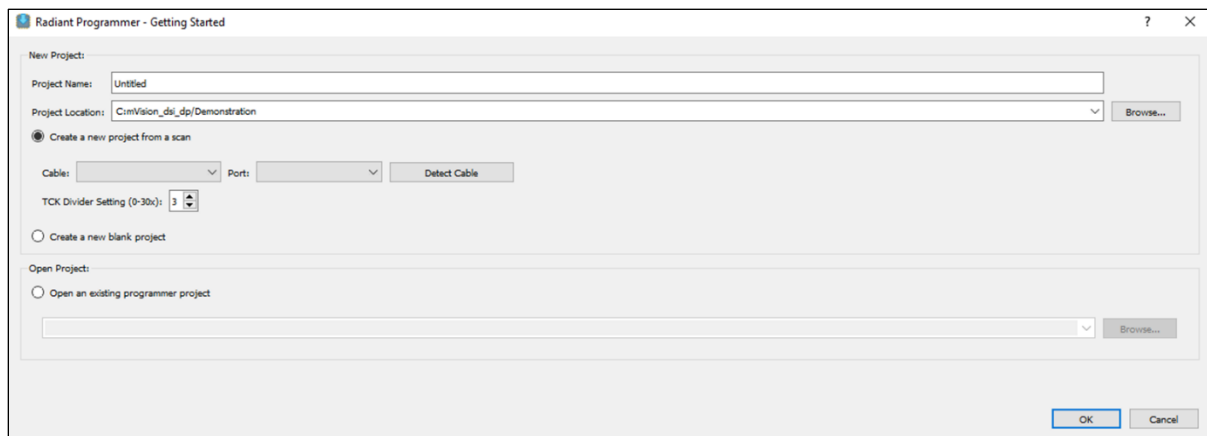

Figure 4.10. Creating a New Project from a Scan
1. Create a new project using the Lattice Radiant Programmer software. In the **Getting Started** dialog box, input the **Project Name** and **Location** as shown in Figure 4.10.